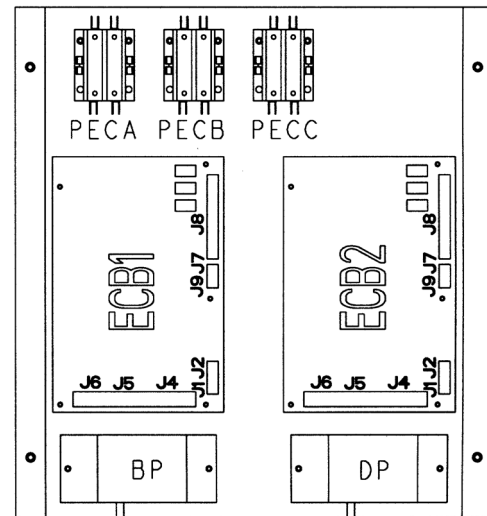

Fig. 16 — Auxiliary Control Box Layout for 48/50A
3. Install ECB-2 in auxiliary control box. See Fig. 16 and 17 for control box layout and auxiliary box wiring.
3. Install building pressure transducer (BP) in auxiliary control box. See Fig. 16 and 18 for auxiliary box layout and pressure transducer example.